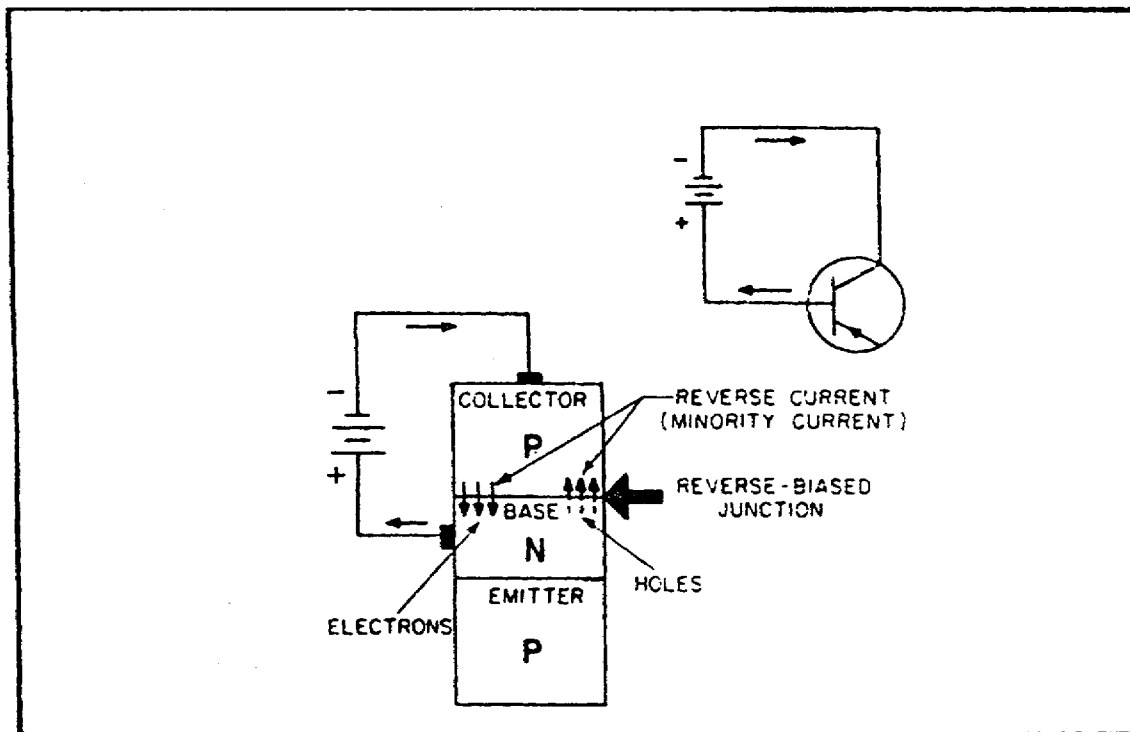

FIGURE 94. REVERSED-BIASED JUNCTION IN A PNP TRANSISTOR.
(2) PNP Reverse-Biased Junction. In the reverse-biased junction (figure 94 on the following page), the negative voltage on the collector and the positive voltage on the base, block the majority current carriers from crossing the junction. However, this same negative collector voltage acts as forward bias for the minority current holes in the base, which cross the junction and enter the collector. The minority current electrons in the collector react to forward bias the positive base voltage and move into the base.